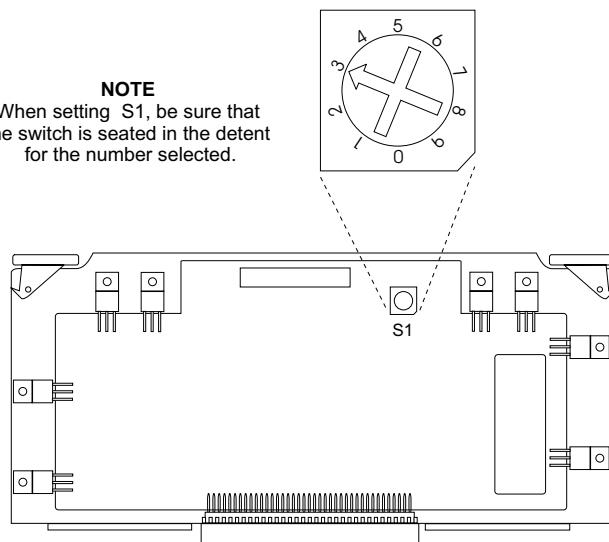

Figure 6-4. Switch S1 Location on the A14 PCB
- Step 6** Set switch S1 (Figure 6-4) to the correct setting for the 693XXB model in which the A14 PCB is being installed (see Table 6-1).